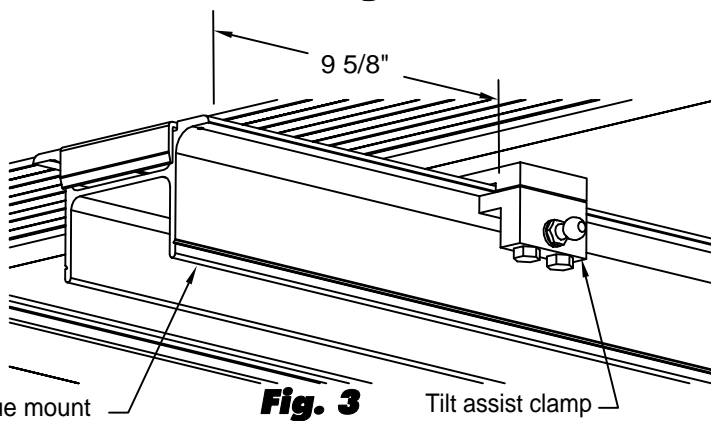

Fig. 3
3. Attach the tilt assist clamp to the lip of the tongue mount 9 5/8" from the front of the tongue mount as shown in Fig 3. Torque the 5/16" bolts to 35 ft/lbs.